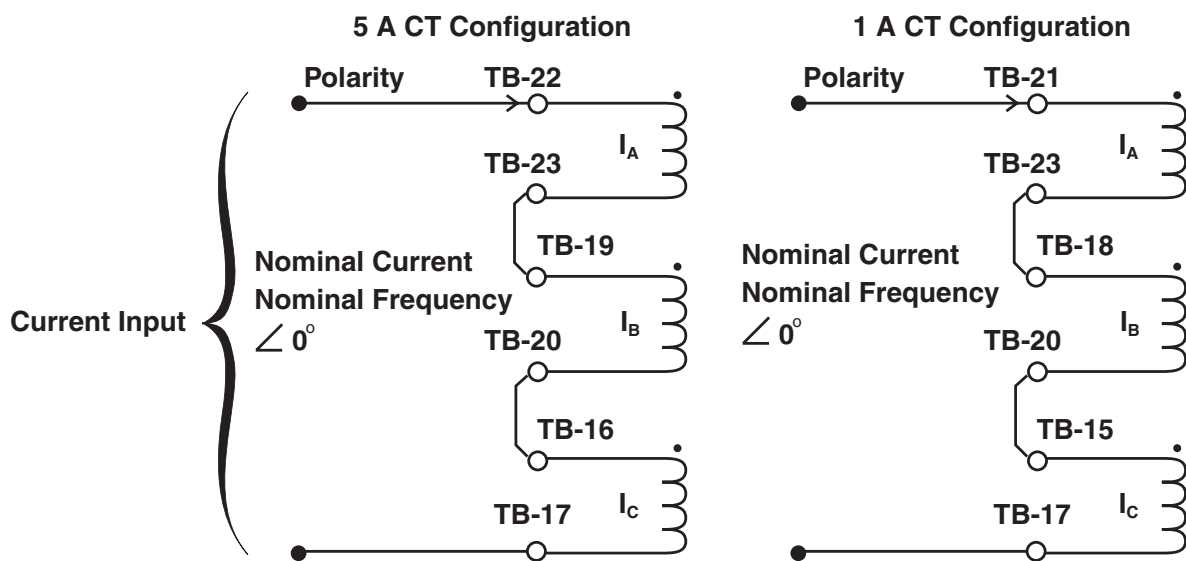
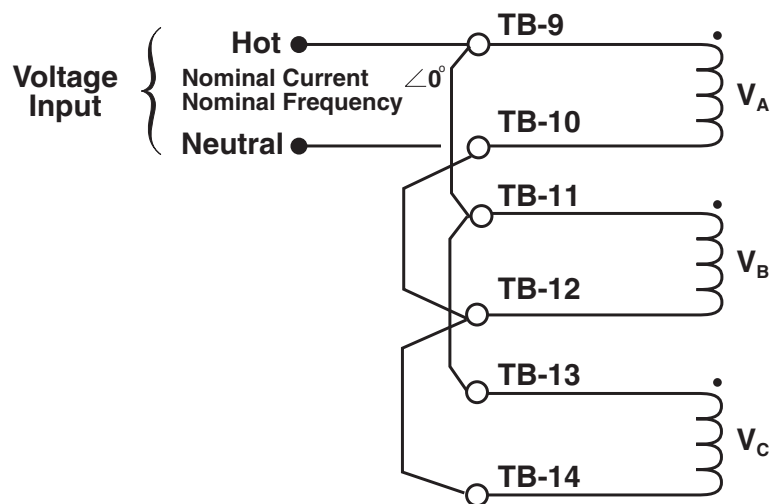

Figure 5-5 Current Input Configuration
Figure 5-6 Voltage Input Configuration
4. Configure voltage and current input sources as indicated in Figure 5-5, Current Input Configuration, and Figure 5-6, Voltage Input Configuration.